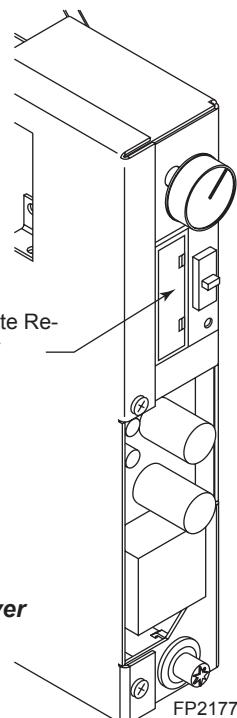

**Figure 14 -
A remote wall switch and up to fifteen (15) feet of 18 Ga. wire may be used with this appliance. Attach the wall switch in a junction box at the desired location on the wall. *Figure 14*.